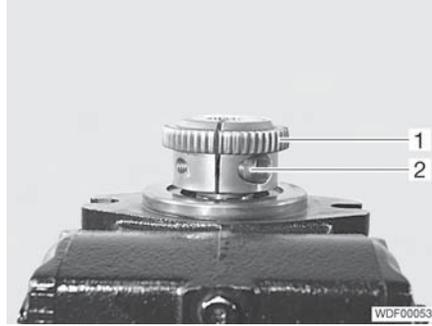

Fig. 116 Clutch hub attachment
- Undo the screw (Fig. 116,2).
- Widen the gap in the clutch hub (Fig. 116,1) slightly using a suitable tool (e.g. wedge).